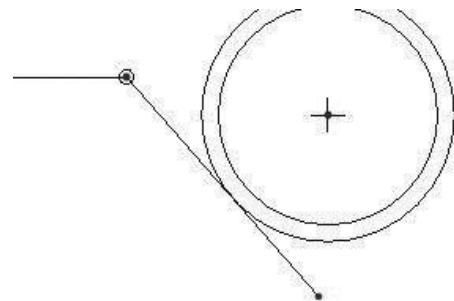

Figure 3-54 Slanted Surface Touches Outer Circle
Step 11:  Use the *Line* tool to sketch in the slanted-surface jig. Start at the base of the tab, move upward a couple of inches, then horizontally toward the two circles. Do not draw horizontally through the center of the circles. Stop before reaching the circles. Draw a slanted line that touches the outer circle (Figure 3-54), then draw a vertical line back down to the base.